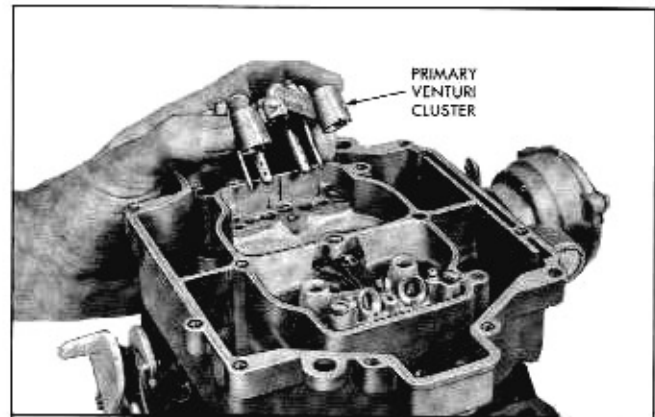

Fig. 6B-74 Removing Primary Venturi Cluster
18. Remove rubber seat and pump plunger assembly from air horn (Fig. 6B-72).